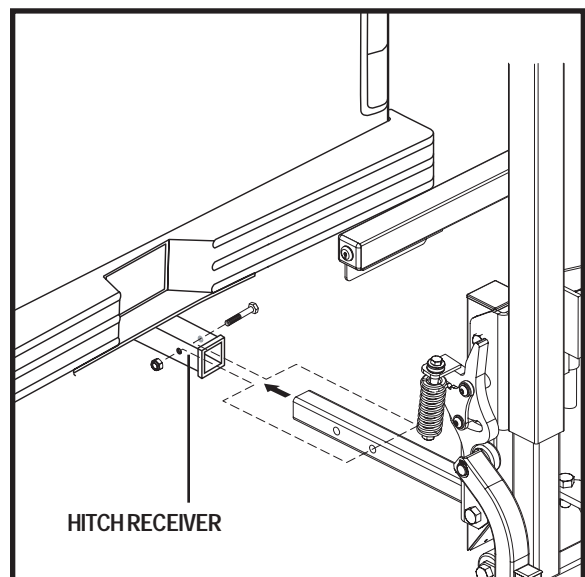

Figure 5. Lift Frame Vehicle Mounting
3. Slide the hitch tube into the vehicle hitch receiver, aligning the mounting hole closest to the lift with the mounting hole in the hitch receiver. See figure 5.
4. Secure the hitch tube with the supplied bolt and nut, inserting the bolt from the passenger's side through to the driver's side of the hitch. See figure 5.